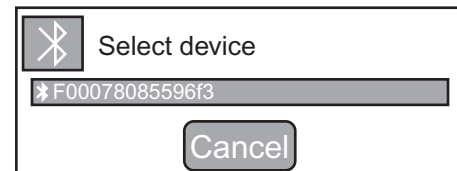

Fig. 10
4. Select the device to pair with (Fig. 10).